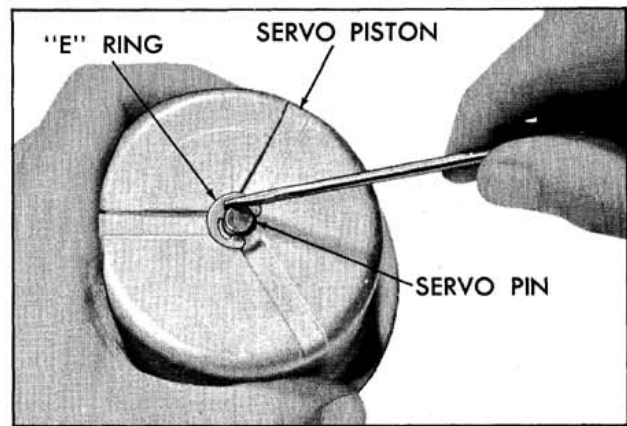

Fig. 6-92 Removing "E" Ring
2. Remove "E" ring retaining rear servo piston to band apply pin. (Fig. 6-92)